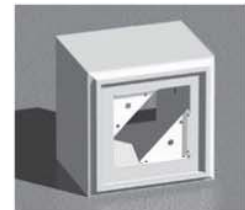

FIGURE 6B
**B)** Install the two STEEL CORNER BRACKETS inside the NEWEL POST TOP SECTION using the #10 x 3/4" FLAT HEAD SELF TAPPING SCREWS provided (Fig 6B). *NOTE: Align diagonally to match THREADED RODS.*